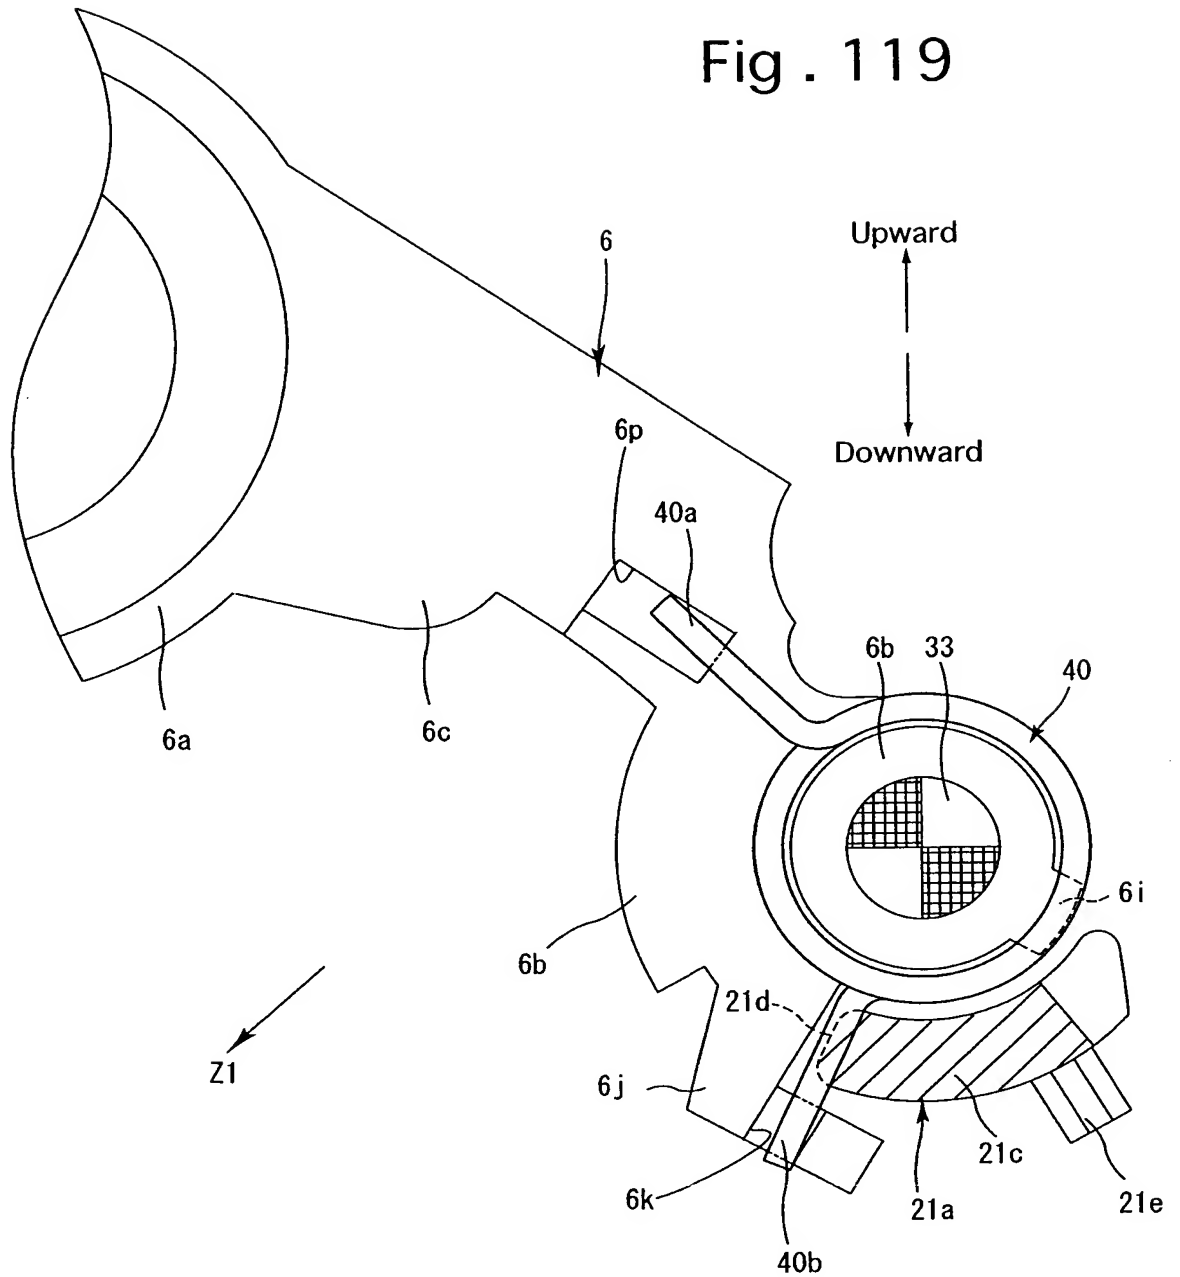

Fig. 120
Fig. 120 is a perspective view of a mechanical assembly. The assembly includes a large, curved, fan-like component (6) with a central opening (6a) and a curved surface (6c). A central shaft (6b) passes through the opening. A circular component (40) is mounted on the shaft, featuring a cross-hatched pattern (33) and a central opening (6i). A bracket (6j) is attached to the shaft, and a component (6k) is mounted on it. A component (21a) is shown in a cross-sectional view, revealing internal features (21c, 21d, 21e). A component (40a) is also shown. A coordinate system is defined by Z1 and Z2 axes. A vertical arrow indicates 'Upward' and 'Downward' directions. A curved arrow indicates a rotation NR1.